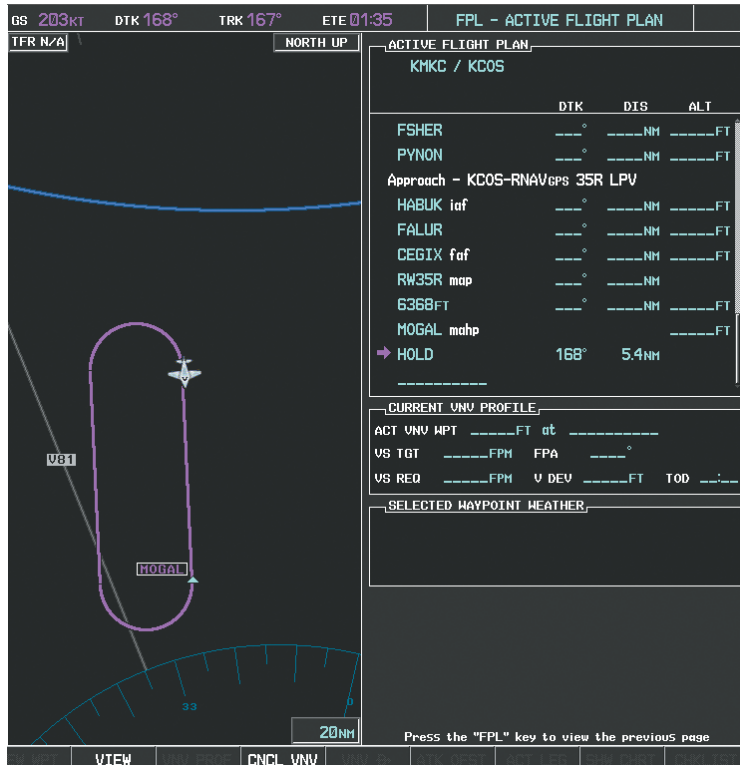

Figure 5-154 Hold Established
27) The aircraft maintains 10,000 feet while following the magenta line through the hold as in Figure 5-154.